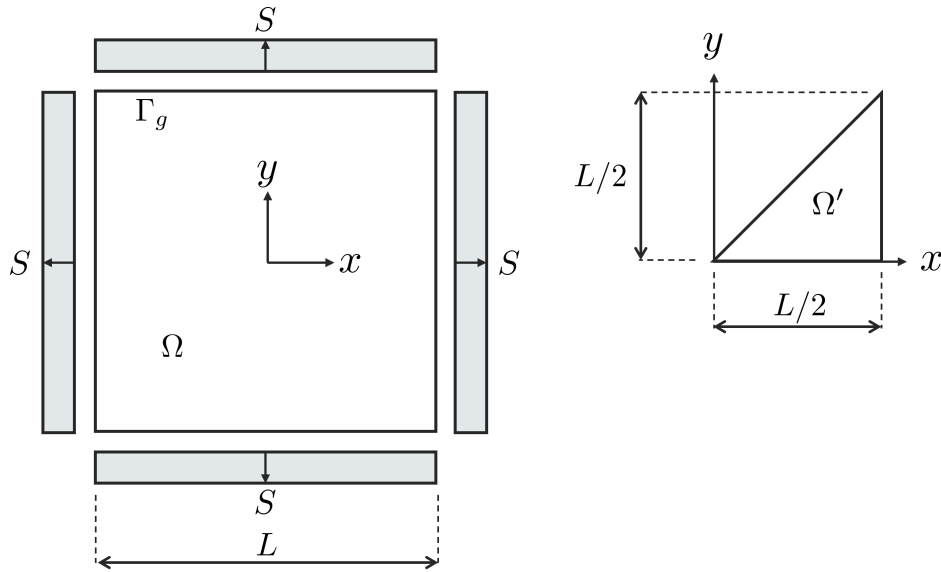

Figure 3: Shows the original domain of the problem for Problem 2 (left), and the reduced domain when considering symmetry (right).
- Using the symmetry of the problem, consider 1/8th of the domain (Ω') as indicated in the right of Figure 3. Assume that the domain Ω' is discretized with a single 3-noded triangular